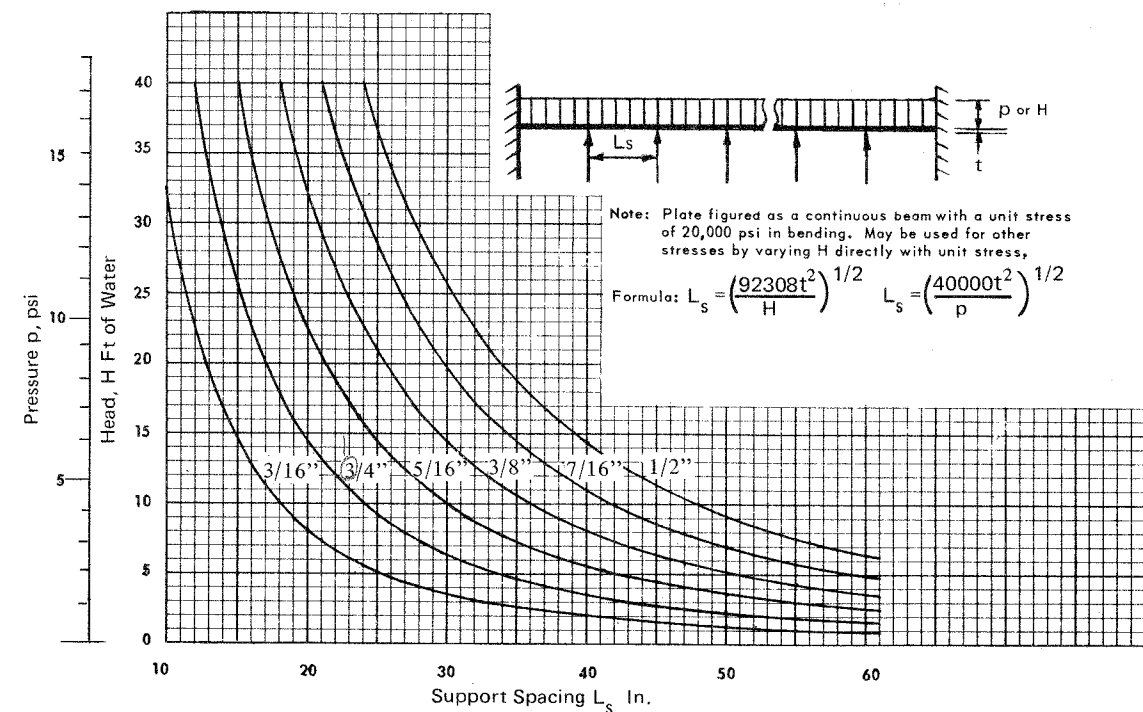

Figure 1. Stiffener Spacing for Flat Plate Acting as Continuous Beam
Figure 1 gives graphically stiffener spacing determined from Eqs. (1) and (2) for an allowable bending stress of 20,000 psi.